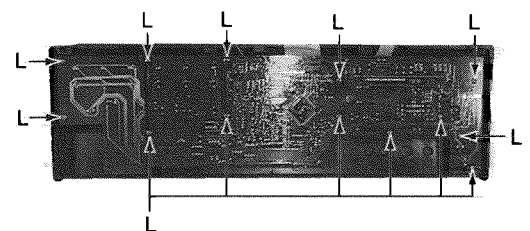

Fig.9
(7)Front P.C.BOARD Removal (Fig.9)